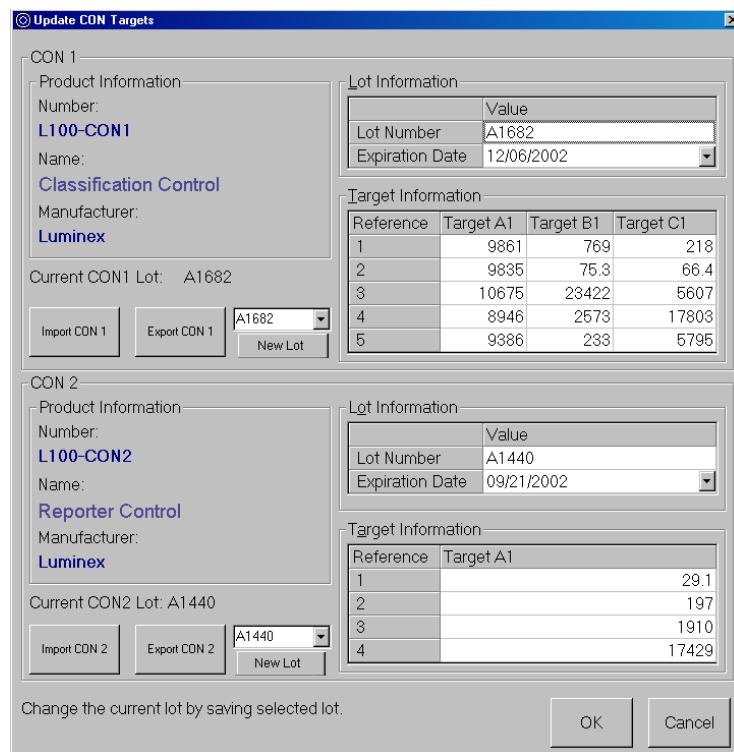

Figure 5-26. Update CON Targets Dialog Box
1. In the **Maintenance** tab, click **New CON Targ**. The **Update CON Target Information** dialog box opens. See Figure 5-26.